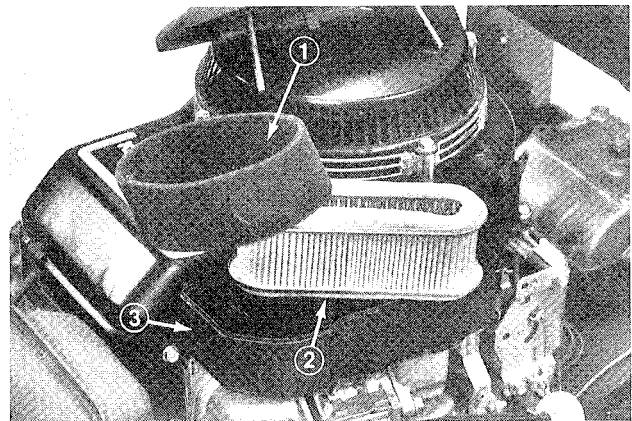

Figure 15
2. Remove foam pre-cleaner by sliding it off the paper element (Fig. 15).